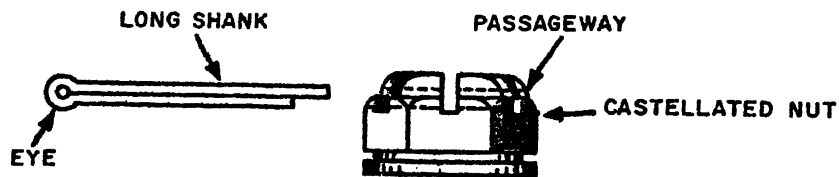

FIGURE 6
- b. Insert cotter pin through castellated nut slot and drilled bolt passageway (the long shank should be on top). See figure 6.